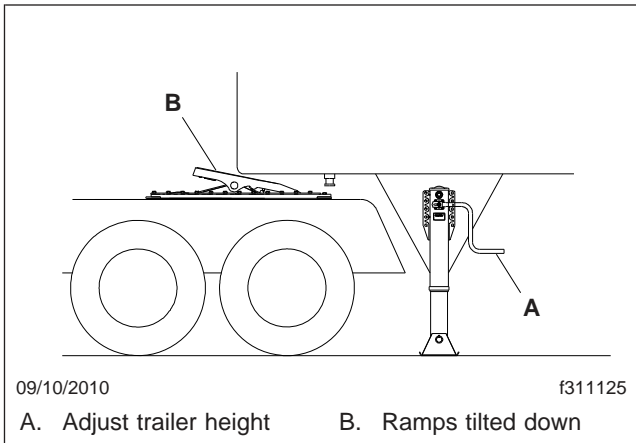

Fig. 17.5, Trailer Connection Point, Low-Lube Fifth Wheel Plate
For a low-lube fifth wheel plate, the fifth wheel must slide freely under the trailer, and the trailer should contact the fifth wheel at the pivot. See Fig. 17.5.
- For a low-lube fifth wheel plate**, the fifth wheel must slide freely under the trailer, and the trailer should contact the fifth wheel at the pivot. See Fig. 17.5.